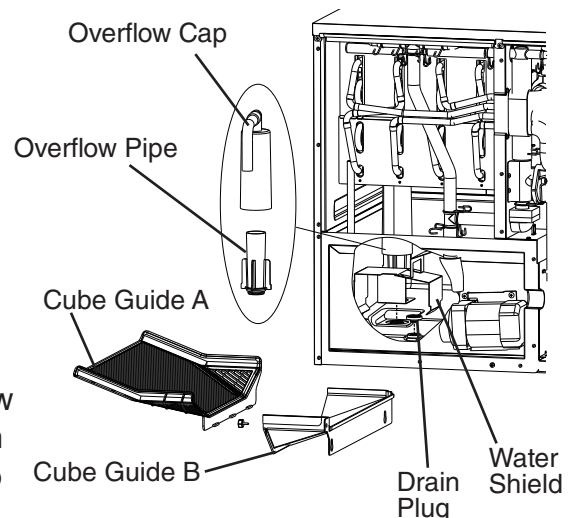

Fig. 14
- 3) Remove the insulation panel. Remove cube guide B, then remove cube guide A. See Fig. 14. Remove the overflow cap, overflow pipe, and water shield.